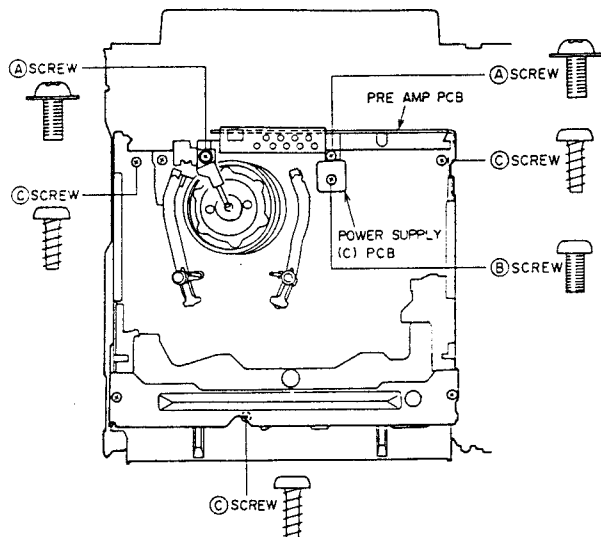

Fig. 3-26
- 1) Remove the ⑥ screw on the POWER SUPPLY (C) PCB and remove the POWER SUPPLY (C) PCB.
- 2) Remove the two ① screws and remove the earth brush then pull up the PRE AMP PCB as shown in Fig. 3-26.
- 2) Remove the three ③ screws from the MECHA. FRAME as shown in Fig. 3-26.